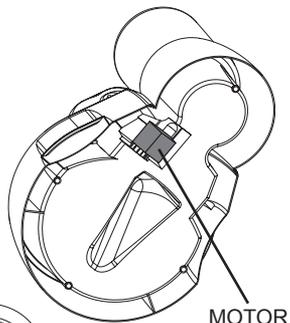

Fig. 1
1. Inspect the bottom of the fountain to be sure the motor is securely attached (Fig. 1).